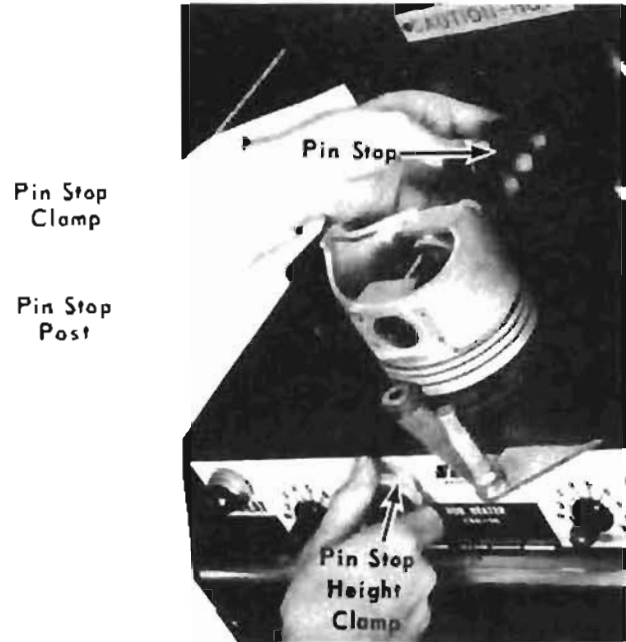

FIGURE 6
4. Place the wrist pin in the piston. Loosen the Pin Stop Height Clamp and raise the Pin Stop (see Figure 6) until the face of the Plunger butts squarely against the end of the wrist pin. Tighten the Pin Stop Height Clamp.